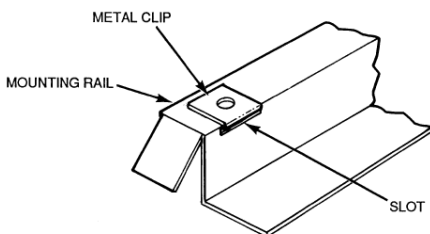

Fig. 6 – Remove Metal Clip on GE Metal Sleeve
**GE Metal Wall Sleeve** -- Remove metal clip on mounting rail located on left, inside bottom, of metal sleeve and discard. See Fig. 6.